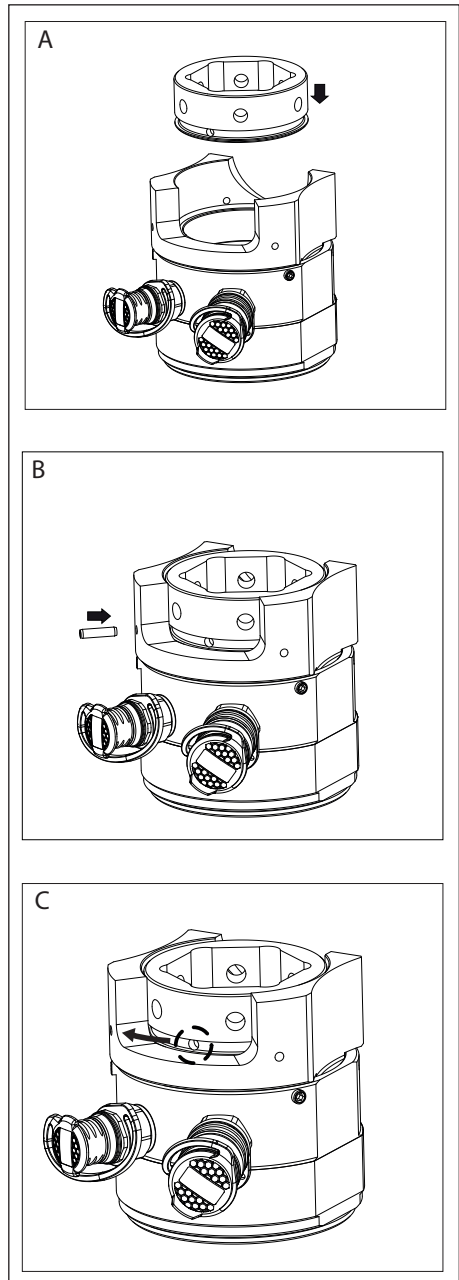

FIGURE 4, INSTALL/ REMOVE CAPTIVATED SOCKET
1. Rotate the bridge so the bottom is facing upwards. See Figure 4, View A.
2. Insert the socket with the machined groove at the bottom of the socket. See Figure 4, View A.
3. Insert the retaining pins supplied with the tensioner into the bridge using a soft mallet and a suitable sized pin insertion tool. See Figure 4, View B.
1. Rotate the bridge so the bottom is facing upwards. Identify retaining pin removal hole in socket. Rotate the socket until this feature is in line with the retaining pin. See Figure 4, View C.
2. Using a soft face mallet and a suitable sized roll pin punch tool, gently remove the retaining pin by tapping it through the bridge wall and through the removal hole into the centre of socket. See Figure 4, View C.